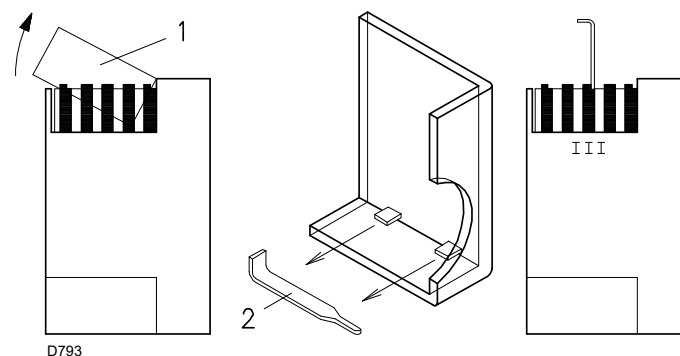
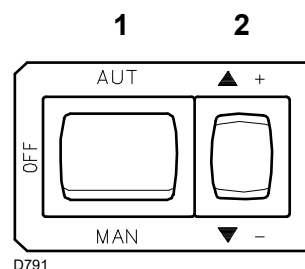

Fig. 23
Fig. 25
Close the thermostats/pressure switches and turn the switch of Fig. 25 to position **"MAN"**.
Now press the button 2)(Fig. 25) "output increase", and keep it pressed until the servomotor has opened the air damper and the gas butterfly valve at 90°.
Press the button 2)(Fig. 25) "output reduction", and keep it pressed until the servomotor has closed the air damper and the gas butterfly valve at 15° (adjustment made in the factory).
- If it is necessary to reduce it, reduce slightly the angle of cam III (Fig. 23) with small, regular movements, i.e. bring it from an angle of 15° to 13° - 11°....
- If it is necessary to increase it, press slightly the button "output increase" 2)(Fig. 25) (open by 10-15° the gas butterfly valve), increase the cam III angle (Fig. 23) with small, regular movements, i.e. bring it from an angle of 15° a 17° - 19°....
The servomotor follows the adjustment of cam III only when the angle of the cam is reduced. If it is necessary to increase the angle of the cam, you must first increase the angle of the servomotor by means of the "output increase" key, then increase the angle of cam III, and finally bring the servomotor to the position of MIN output, with the "output reduction" key. If it is necessary to adjust cam III, remove the cover 1)(Fig. 23), inserted with a trigger catch, as indicated in Fig. 23, extract the special key 2)(Fig. 23) from inside, and insert it in the notch of cam III.
Press the key 2)(Fig. 25) "output increase" a little so that a new screw 5)(Fig. 23) appears in the opening 6)(Fig. 23), adjust it until optimal combustion is obtained. Proceed in the same way with the other screws.
Switch the burner off with switch 1)(Fig. 25), OFF position. Release the adjustable profile cam by setting the servomotor slot 2)(Fig. 25) in a vertical position and check several times that by rotating the cam forwards and backwards by hand, the movement is soft and smooth, without sticking.
- removing the hood and working on the "AUT/MAN" switch of Fig. 25.